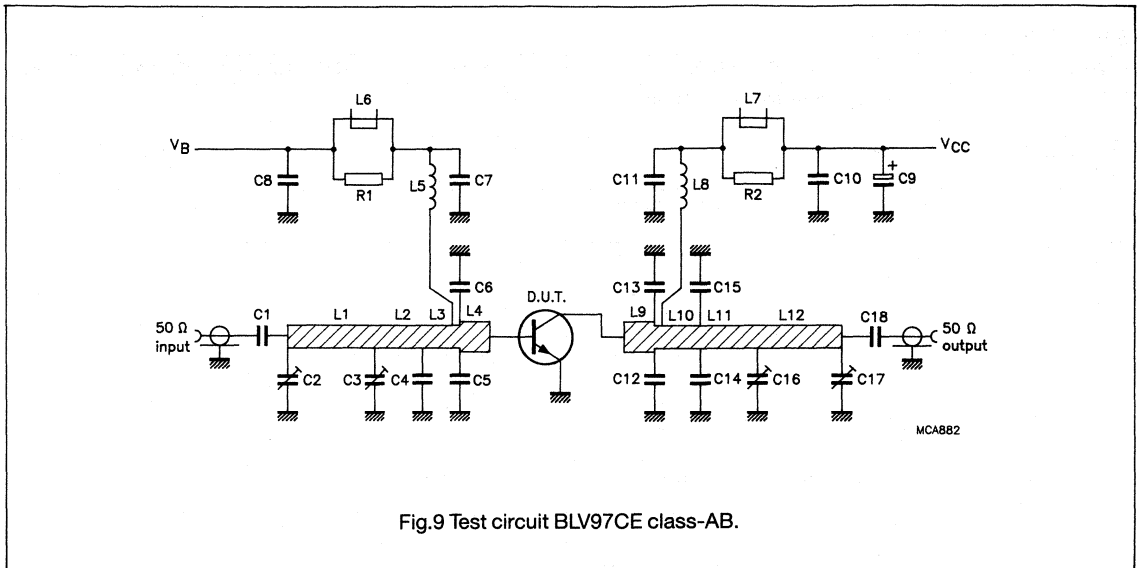

Fig.9 Test circuit BLV97CE class-AB.
**UHF power transistor****BLV97CE****APPLICATION INFORMATION** (continued)**List of components** (Fig. 9)